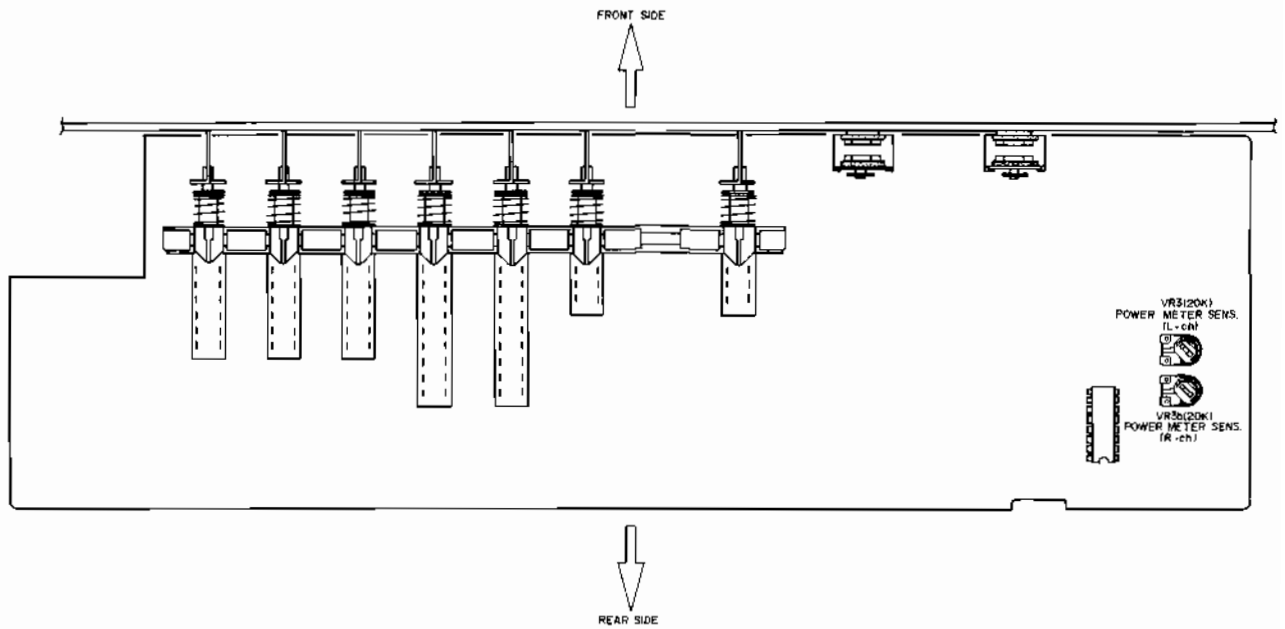

Fig. 5 Pre Amp P.C Board
1. POWER METER SENSITIVITY ADJUSTMENT (Refer to Figs. 5, 7)